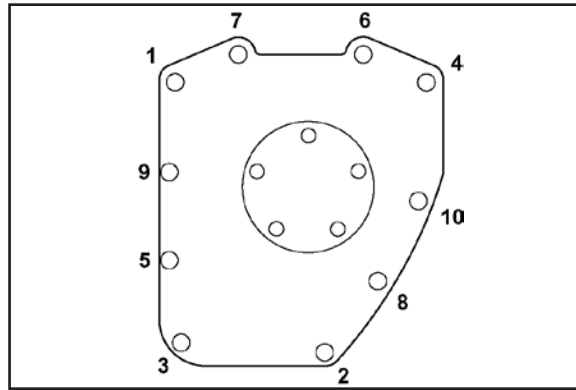

Figure 6
- P- Use a new gasket and install cam cover. Tighten cover bolts to 90-120 in-lbs. torque in sequence shown. **See Figure 6** above.